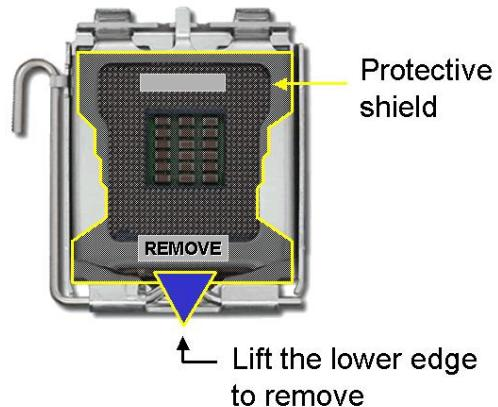

Figure 5-2: Remove the CPU Socket Protective Shield
Step 1: Remove the protective cover. Remove the black protective cover by prying it off the load plate. To remove the protective cover, locate the “**REMOVE**” sign and use your fingernail to pry the protective cover off. See Figure 5-2.